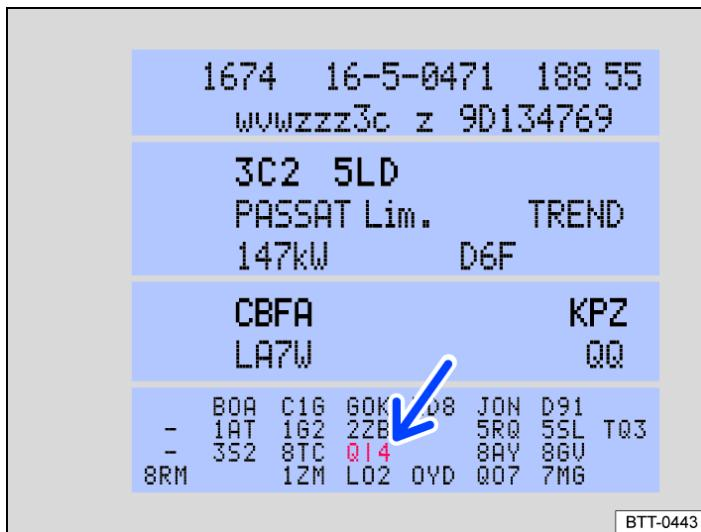

Fig. 1 Vehicle data sticker with PR number for the relevant service (illustration).
- From the PR number of the vehicle data sticker → *Fig. 1* (Arrow).